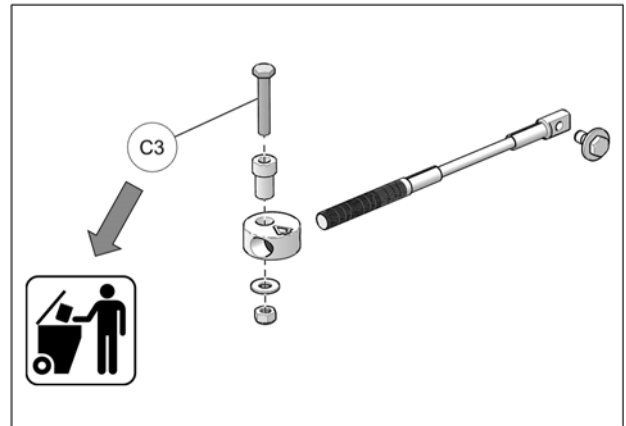

Fig. 24
14. Discard bolts (C3) included in Steering limiter cable kits. They are not needed for installation on this particular vehicle model. Fig. 24